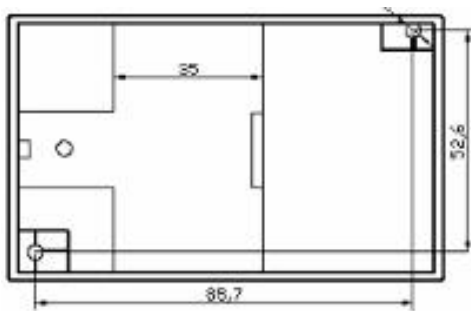

Figure 3, SK shape installation dimensions
as shown in figure 3 (in mm)..
- ① Fix the transducer on the side of the card slot and hook on the mounting rail;
- ② Pull the spring pin down;
- ③ Clip the transducer mount on the mounting rail;
- ④ Release the spring pin and clip the transmitter on the mounting rail.
- ① 4mm diameter hole in the fixed plate according to the screw hole position shown in Fig. 3;
- ② Use the screw $\Phi 3.5$ to insert into hole and secure it.